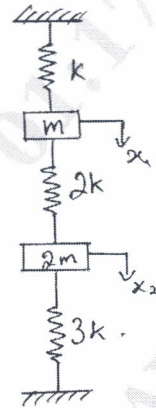

Fig.Q.8(b)
- b. The Fig.Q.8(b) shows a spring mass system. Determine: